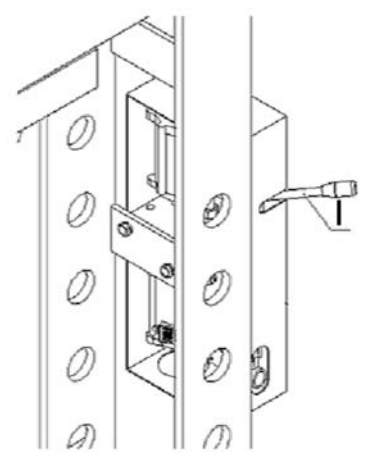

Figure 4
- 8) Install the selector lever (I) on the selector valve on the pump (#49). (Refer to Figure 4)